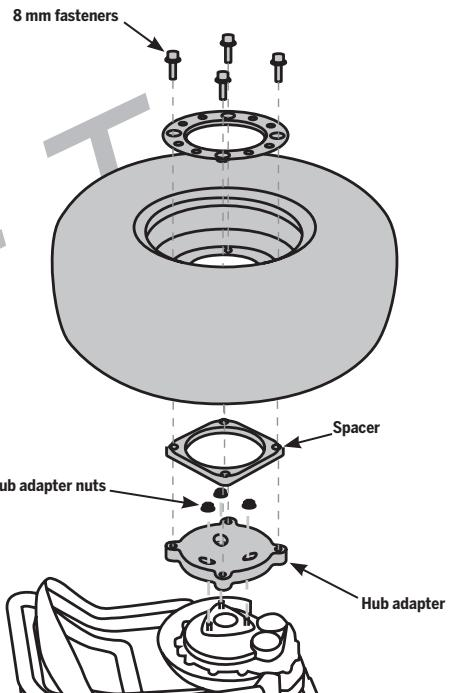

Figure 74: x2 SE Turf Tire/Wheel/Spacer/Hub Adapter
3. Holding the wheel to prevent rotation, remove the four 8 mm fasteners, (see **Figure 74**).
4. Place the Tire/Wheel assembly onto the spacer (see **Figure 74**).